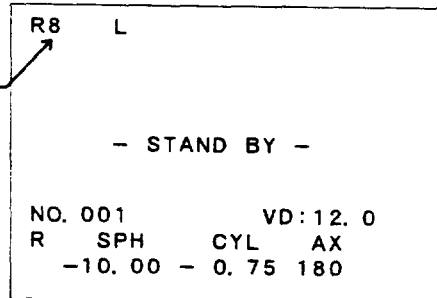

Figure 6-9 Sample Screen After Measurement
⑤ When the alignment process is complete, the measurement is automatically started. Every time a measurement cycle is done, a beep sounds. During measurement to reduce accommodate, the automatic fogging function slightly blurs the target (see page 26). If you would like to disable the automatic fogging function, simply press the QUICK key to enter the Quick mode (see page 28).
- ⑥ Measured values are displayed directly on the screen (see Figure 6-9).